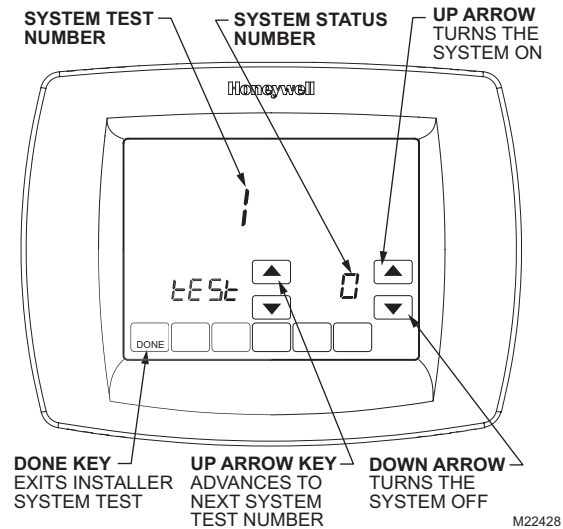

Fig. 30. Review thermostat buttons used during Installer System Test.
3. See Fig. 30 to review how the thermostat buttons are used during the Installer System Test. See Table 6 for available Installer System Tests.